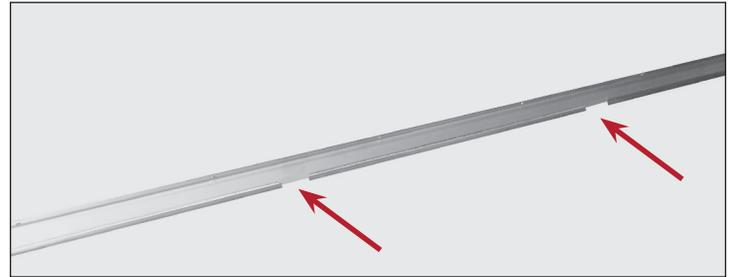

Fig. 1. Door channel openings (two-door appliances ONLY).
- **Two-Door Appliances** Slide the front door so it is centered on the appliance. See figs. 1 and 2.